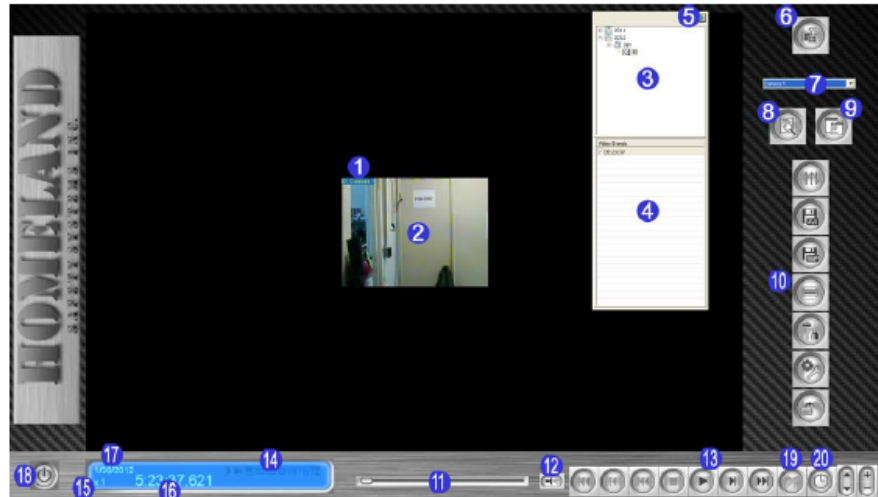

Figure 6.2 – ViewLog Main Screen
- a. First, select the appropriate camera using the Camera Select box (#7, Figure 6.2).
- b. Select the date the event occurred using the Date Tree (#3, Figure 6.2). If you are unsure of a specific date, select the first date in the range you need to review (for example, the event happened over the previous weekend, select the date of the previous Friday).
- c. Select the approximate time the event occurred using the Video Event List (#4, Figure 6.2). It is best to select a time earlier than the event you are looking for and work your way to the actual event (for example, the event you are looking for happened at 11:28am. It is better to start looking for the event around 11:26am to compensate for time differences between the system, and the witnesses/watches/cell phones/wall clocks/ etc.